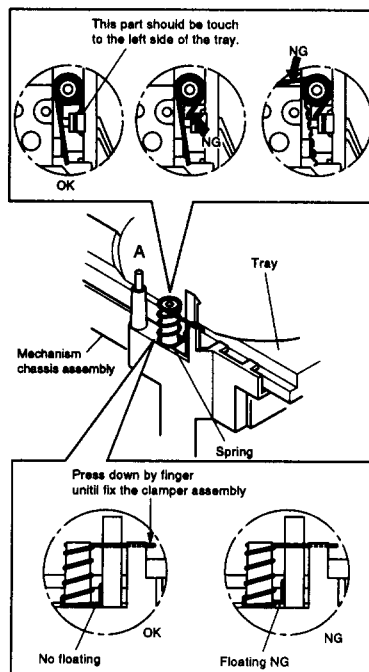

Fig. 1-2
4. By referring to Fig 1-2, insert the spring normally and mount the clamper stay.